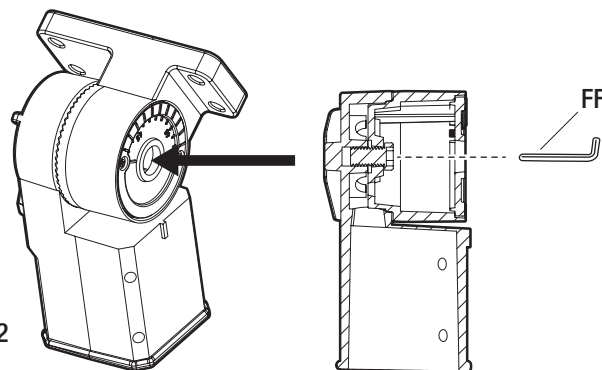

Fig. 2
- Use the allen key (FF) to loosen the screw and adjust the angle to desired orientation for the fixture. (Fig. 2)